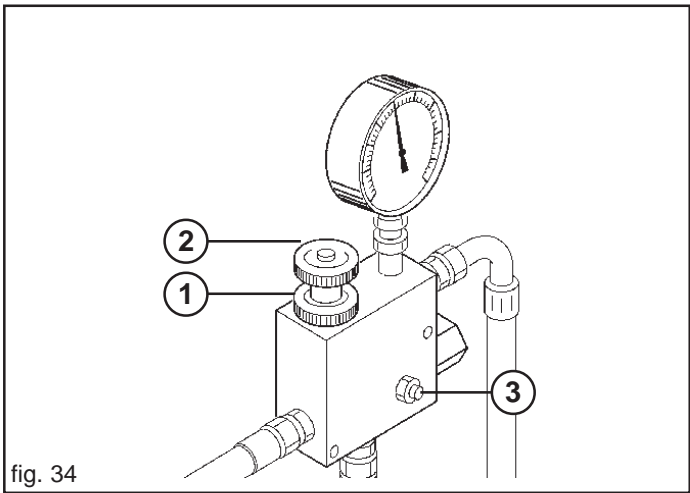

fig. 34
If you wish to increase the number of revolutions of the fan for distributing heavier fertilizers, carefully proceed as follows (Fig. 34):
- b) loosen the handwheel (1, Fig. 34);
- c) rotate the handwheel (2, Fig. 34) clockwise or anticlockwise to reduce or increase pressure and adjust the number of revolutions of the blower accordingly.